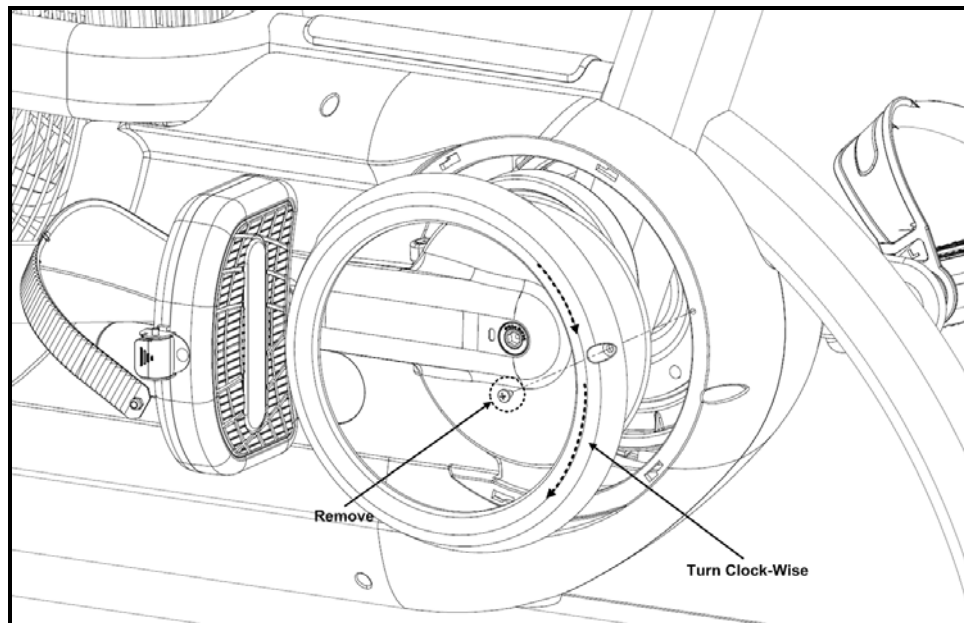

Fig. 1
1. Remove the crank ring shroud (Fig. 1) from the left & right large base shrouds by extracting the lone phillips head screws that hold each ring in place with a phillips head screwdriver and then turn each of the rings clock-wise to unlock and pull off.